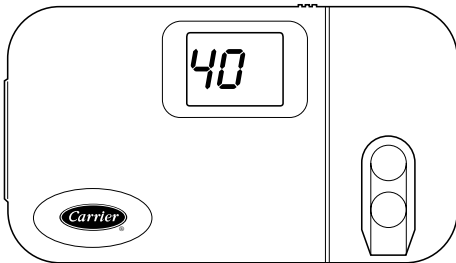

Fig. 4 - Lowest Temperature Setting
2. **Close** the external manual gas valve (See Fig. 4).